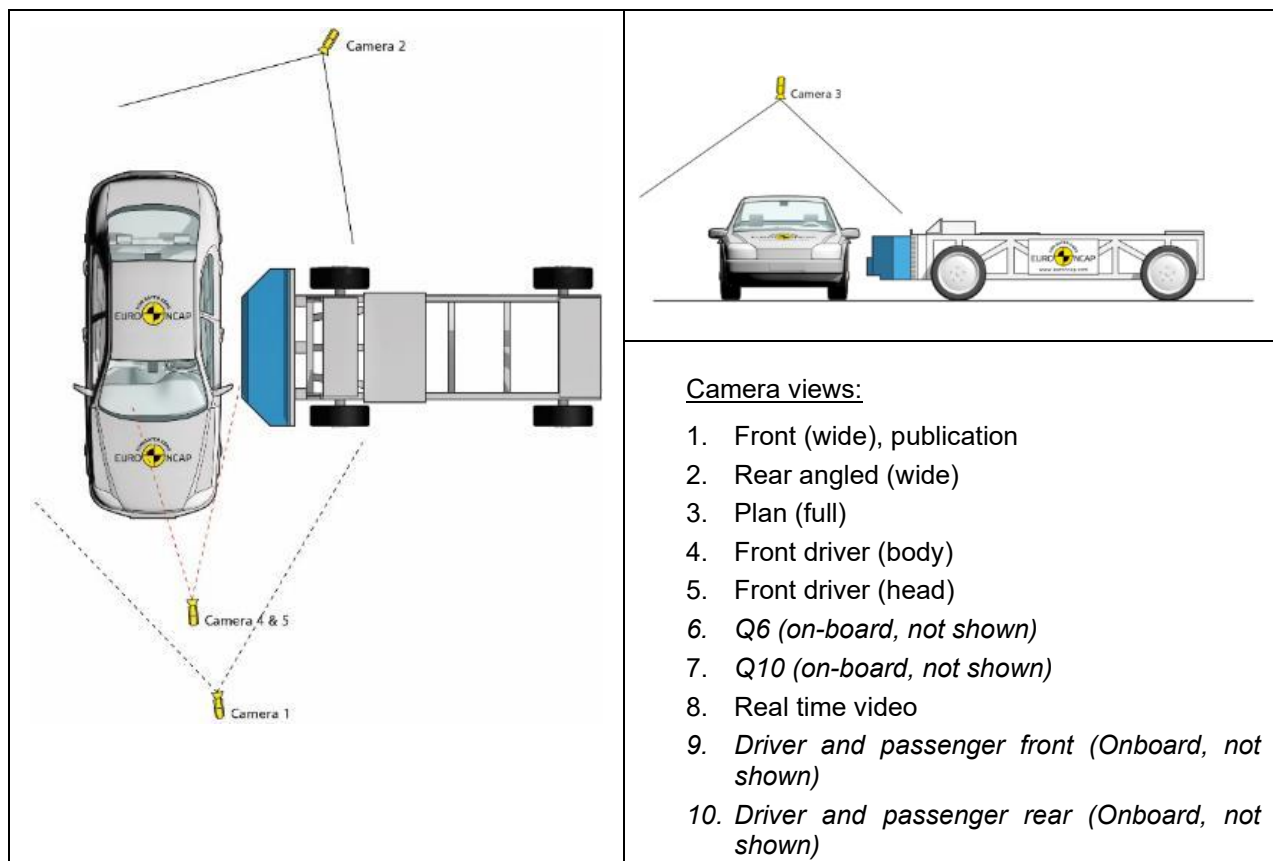

Figure 5: Locations for Cameras 1 to 5 (Side Moving Deformable Barrier).
A minimum of 5 cameras should be installed around the test vehicle, positioned as indicated in Figure 5 below. Two (2) additional on-board cameras to assess child dummy head containment are to be used and also one real time camera. Where required there will also be two additional onboard cameras for the driver and passenger front and rear views.